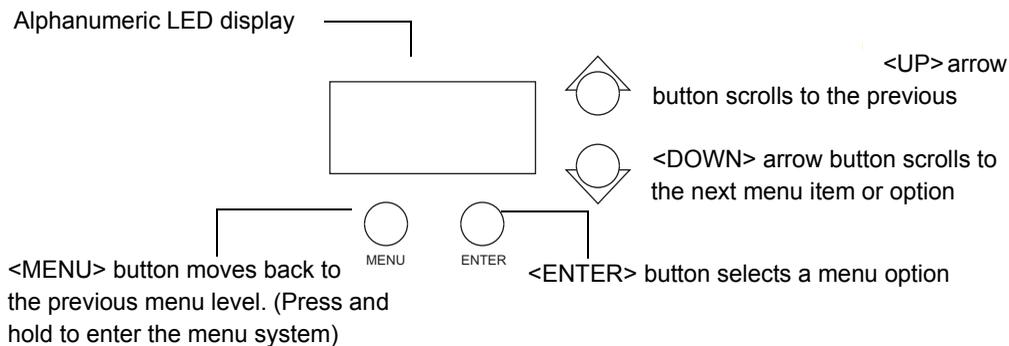

Figure 2-3 ColorPower menu navigation buttons
1. Access ColorPower's menu system via the LED display and four menu navigation buttons to assign a Start channel to ColorPower, (see Figure 2-3). For more information regarding the menu system, see “Menu Options” on page 3-2
1. Using ColorPower's menu system (see Figure 2-3), press and hold the <Menu> button until *DMX* appears on the LED display.
1. Using ColorPower's menu system (see Figure 2-3 on page 2-6), press and hold the <Menu> button until *dMX* appears on the LED display.